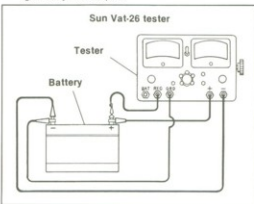

Figure 8-21. Testing Battery Capacity
B. Using a Load Tester (Figure 8-21)